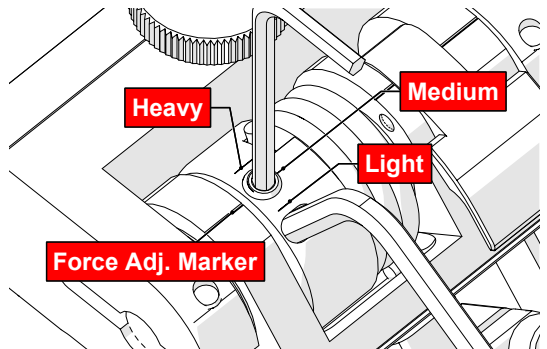

Fig. 57 - Choose desired tension
6. Gently apply pressure on the long leg of the 3 mm hex wrench until the force adjustment marker lines up with the desired spring tension. While keeping the markers in line, tighten the force adjustment screw (Fig. 57).